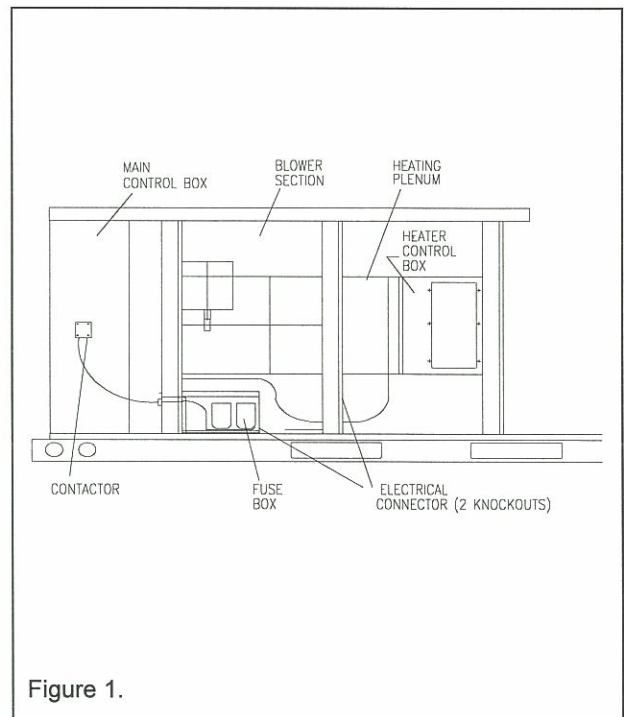

Figure 1.
9. With some units a fuse box is supplied with each electric heater kit. Locate and install the fuse box as shown in Fig 1. refer to the schematic (s) and connect the power wiring as required.